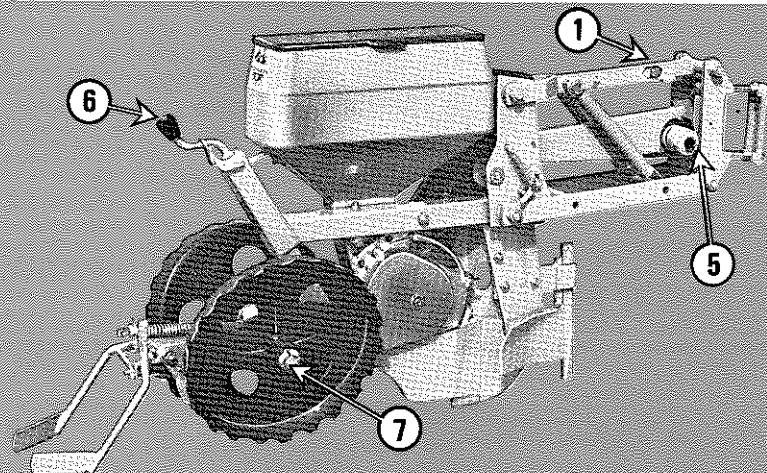

Fig. 24
### VERSION de base A type MAÏS (fig. 24)
### BASIC VERSION « A » : CORN-MODEL (fig. 24)
- ① Parallelogram locking screw :
- on the corn version (fig. 24 - 27 - 28) this pin remains in position (normally articulated parallelogram)
**Caution :** (for the second case) - before the very first start the top link of the tractor and the front wheel (screw ⑫) should be adjusted so that the hole ① moves in the center of its slot.
- ② Compensation spring on parallelogram :
- fitted as per ② the 2 springs increase the weight of the metering units (recommended for all corn and sugarbeet versions)
- fitted as per ③ they reduce this weight (for corn version on very soft soils)
- fitted diagonally as on fig. 24, they stabilize the metering units in both directions.
- ⑤ Warning device : This makes a grinding noise when the distribution is blocked. In this case the tractor should immediately be stopped (see pages 24-25).
- ⑥ Depth control : a graduated gauge, at the back of the metering unit, facilitates uniformity of pre-set adjustment.
- ⑦ Corn version firming wheels : the gap between the two wheels is to be adjusted by means of the spacing washers located in the hubs of the wheels. Putting these washers either on the inner or the outer side provides two gap possibilities at the base of the wheels. For light firming and for hard soils, use the narrow gap.
- ⑧ Drainage trap : To empty the metering unit it is sufficient to lift the lid of the trap. In case of a total drainage, remove the housing cover.
- ⑨ Declutching : To declutch a metering unit put the clip pin in the hole at the end of the central shaft. When you reverse this action and put the clip pin in the sprocket hub you ensure again the drive of the mechanism.
### Grundausrüstung A Typ MAIS (Abb. 24)
— über Kreuz montiert - siehe Abb. 24 - stabilisieren sie die Elemente in beiden Richtungen.